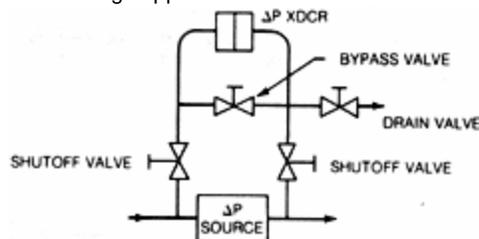

FIGURE 3. Typical Valve Arrangement for DP Use
2. If you will be using a differential pressure unit for measuring the DP across an opening or filter, it requires more extensive valving to place it into operation, and also to remove it without overpressure damage. In this case, use a valve arrangement as shown in Figure 3. [See Figure 3: Typical Valve Arrangement for DP Use.]